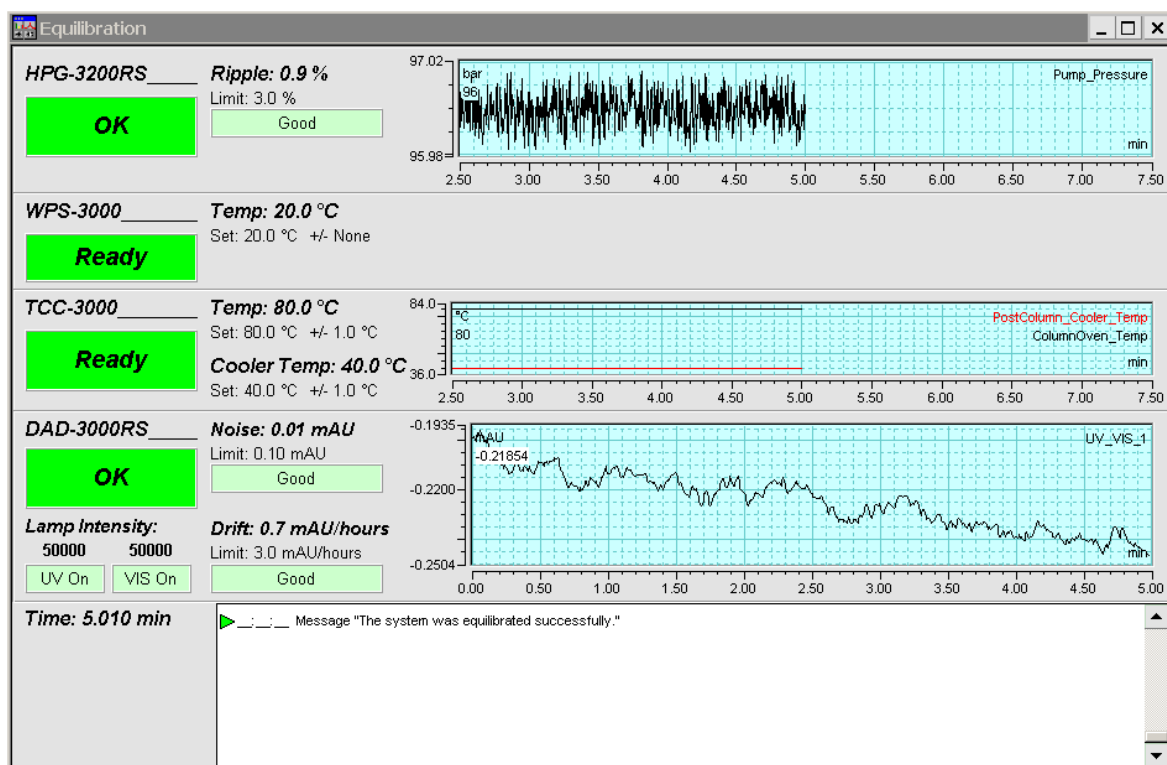

Fig. 14: Equilibration window
- ◆ Opens the equilibration control panel for the instruments in the timebase (→ Fig. 14, page 46).